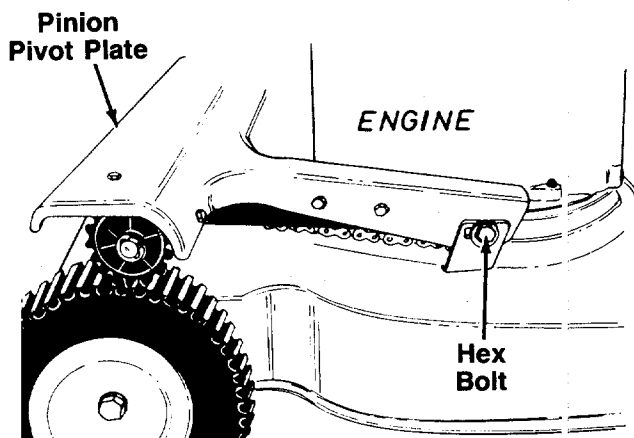

FIGURE 25.
1. Loosen (do not remove) the hex bolt on each side of the pinion pivot plate. See figure 25.